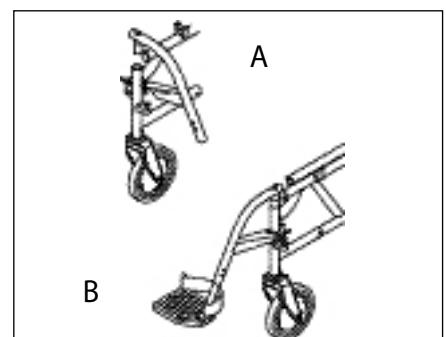

Figure 4
Installation (Fig. 4)
- Place swing-away pivot saddle into the receiver on front frame tube with the footrest facing outward from the frame. (Fig. 4-A)
- Rotate the footrest inward until it locks into place on locking bolt. (Fig. 4-B)